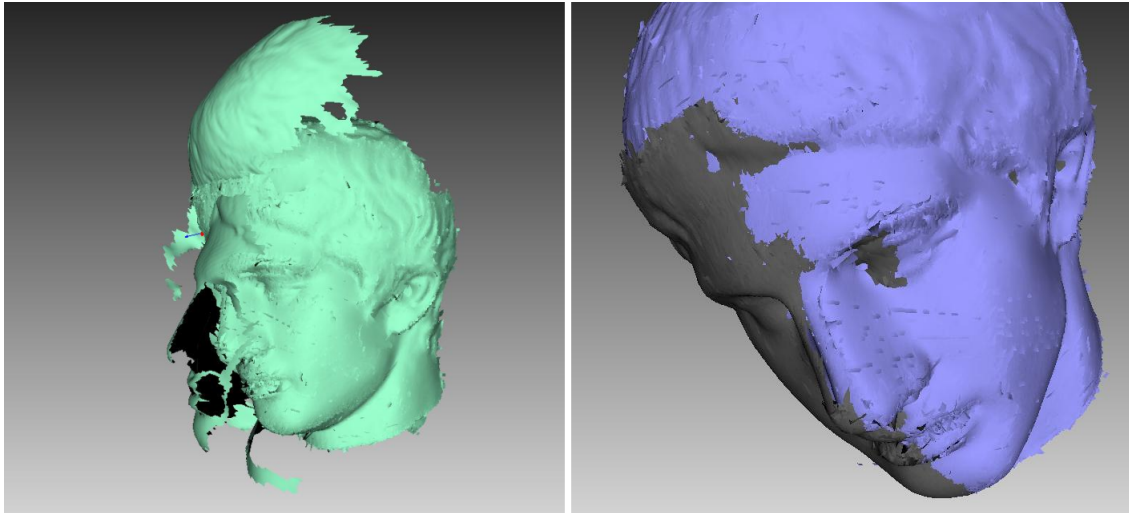

Figure 77: Global-registration errors: wrong settings on left and gap between scans on right.
- After the global-registration algorithm finishes, the frames are in disarray (see Figure 77, left) or the frame positions are unchanged. This error occurs because the application is configured for a different scanner type than the one that captured the data. Change the device type in the application settings (see Algorithm Settings).
- The algorithm has completed successfully, but a gap exists between two or more scans (see Figure 77, right). Select just these scans in the *Workspace* panel and run the global-registration algorithm. If the scans have drawn closer to each other but have failed to align after the algorithm finishes, increase the number of iterations and rerun the algorithm. Repeat this process until you achieve full alignment, then run global registration once again for all data. If you are unable to align several problematic scans, try aligning just two of them, then gradually increase the number of scans until all of them are aligned.